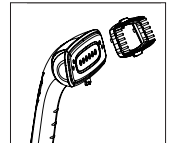

Figure 15
- Attach the fabric brush by lining up the notches on the fabric brush with the holes on the steam nozzle. Gently push into place (Figure 15).